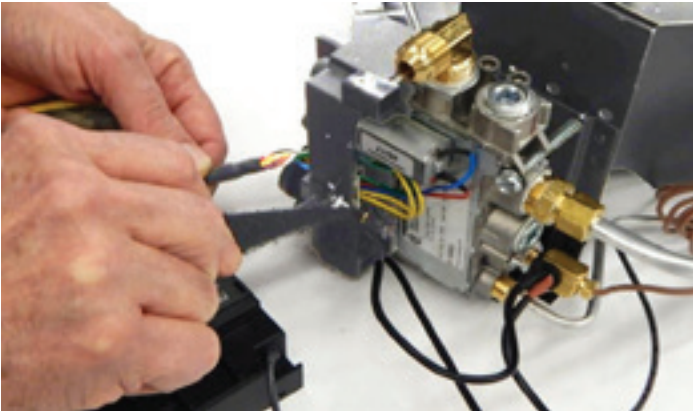

Figure 5
6. Remove hook and loop adhesive backed strip from side of valve. **See Figure 5.**